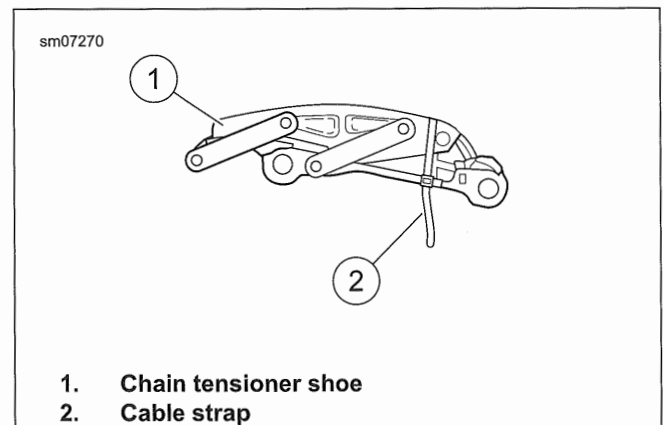
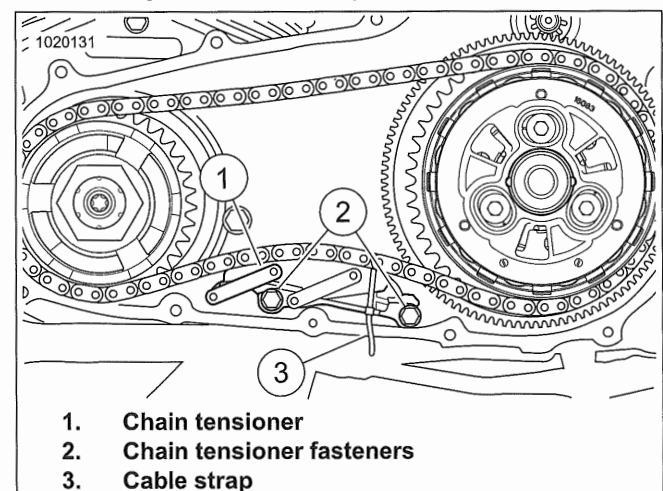

Figure 5-11. Securing Chain Tensioner
Figure 5-12. Chain Tensioner
1. See Figure 5-11. Remove chain tensioner.
- a. Install cable strap (2) as shown. Exposed portion of cable strap below cover indicates need for removal before cover installation.
- b. See Refer to Figure 5-12.. Remove chain tensioner fasteners (2).
- c. Remove chain tensioner (1).
- c. See Figure 5-11. Push shoe (1) down until it contacts wedge. Keep tension on shoe so wedge stays in place.
- d. Insert cable strap (2) as shown to hold wedge in place. Verify that end of cable strap hangs below primary chain tensioner. Cable strap serves as a reminder to remove before installing primary cover.
10. See Figure 5-12. Install primary chain tensioner.
- a. Install primary chain tensioner (1) with fasteners (2). Tighten.